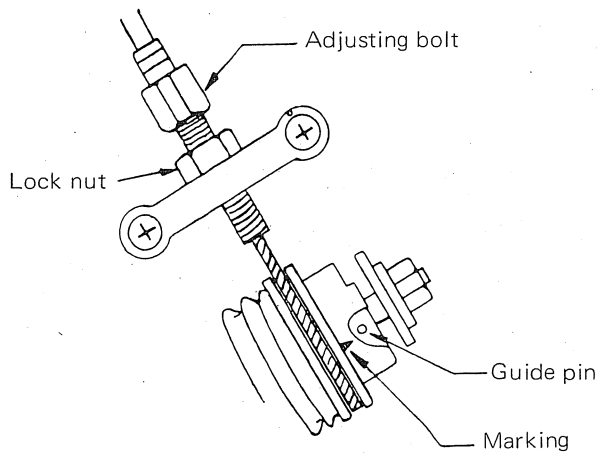

Fig. 2-3-6
- a. If the marking on the pump guide pin is not aligned with the marking on the adjusting pulley, loosen the lock nut shown in Fig. 2-3-6.